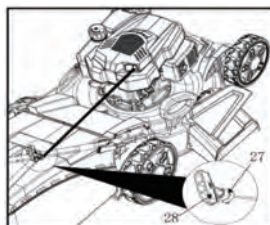

Fig. 12
3. Always rest the recoil starter handle (28) onto the hook (27) located on the right-hand side of the upper handle bar (2) (Fig. 12) when the recoil starter is not operated.